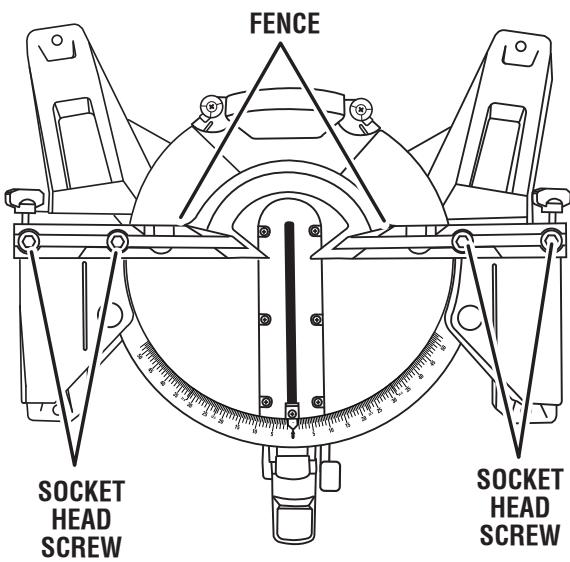

Fig. 19
- Using the blade wrench, loosen the socket head screws that secure the fence to the miter table. See figure 19.